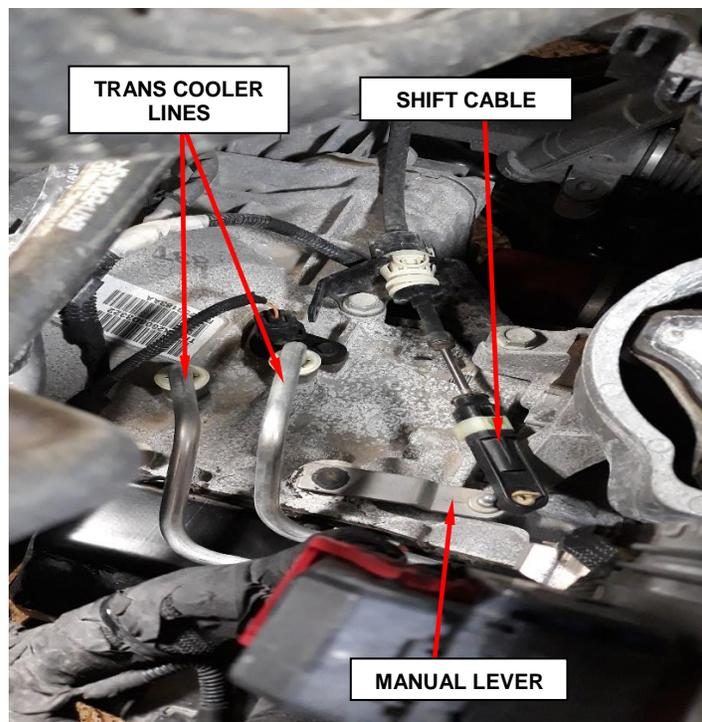

Figure 2 – Trans Cooler Lines
2. Disconnect the oil cooler lines from transaxle using **Trans Cooler Line Disconnect 8875A** (Figure 2).
4. Disconnect the shift cable from the manual lever (Figure 2).
39. Reconnect the shift cable to manual lever (Figure 2).
40. Reconnect the oil cooler lines to the trans (Figure 2).